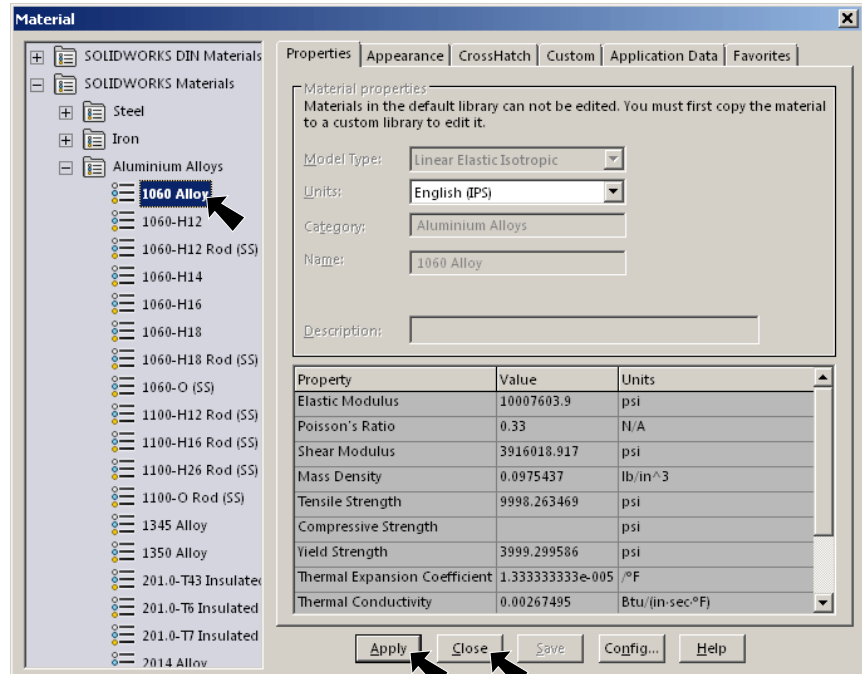

Fig. 11
- Step 2. Expand Aluminum Alloys in the material tree and select 1060 Alloy, Fig. 11. Click Apply and Close.